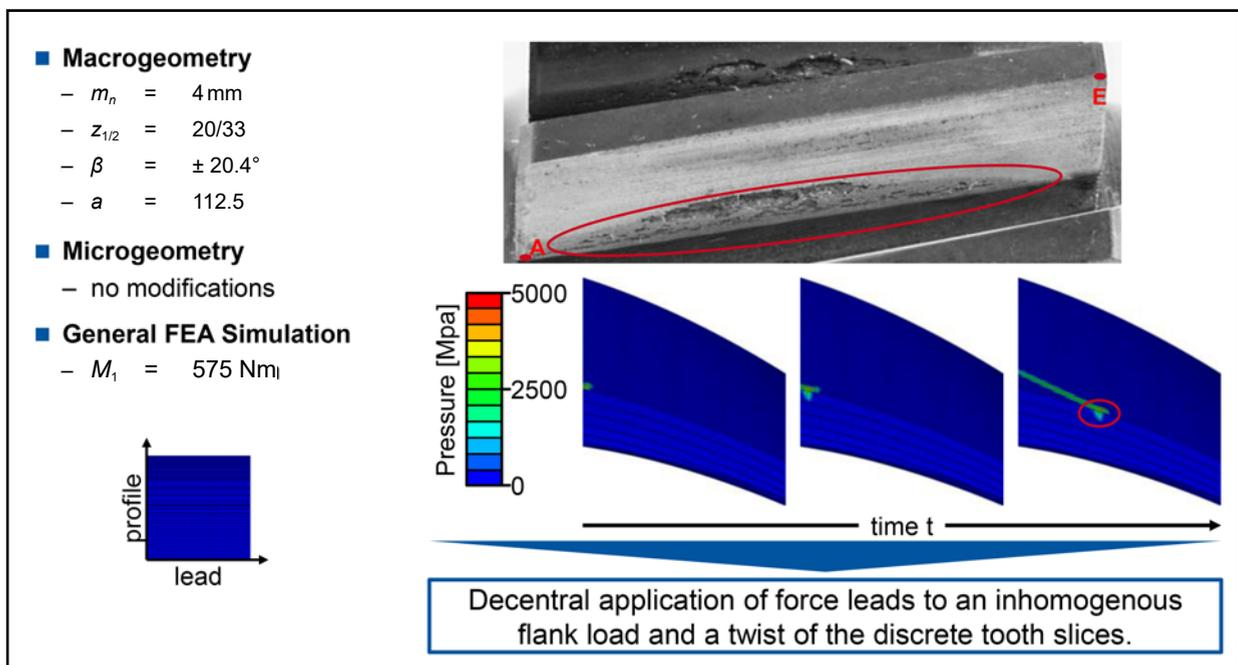

Figure 9 Damage pattern of helical gear with irregular tooth mesh.
**Irregular tooth mesh of helical gears.** The contact conditions during irregular tooth mesh of helical gears have not been analyzed in detail up to now. Occurring tooth flank damage — indicative of an irregular tooth mesh — has been encountered by tip reliefs. Such a damage pattern is presented (Fig. 9, top). The region of the tooth root flank shows strong material fatigue in form of a pitting line, similar to spur gears with a premature tooth mesh. However, the pitting line is orient-
ed in the direction of the flank lead — not along the path of contact. A premature tooth mesh of a helical gear can only take place at the start and end points of meshing — A and E (Fig. 9). As a result, there must be another reason for high tooth flank stress in the tooth root flank area of helical gears.
In order to explain the damage pattern (Fig. 9), a detailed FEM analysis is performed. In (Fig. 9, middle), it can be seen that the first point of contact is at the left side of the tooth root flank area of